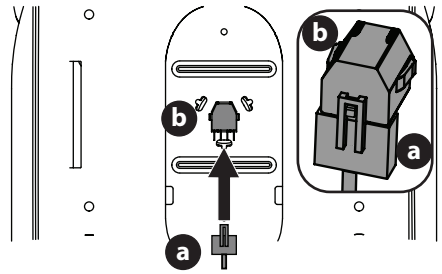

Figure 8
3. if necessary, securely connect the seat switch wiring harness (a) to the seat switch (b) (Figure 8). Secure excess wire away from pinch points before continuing.